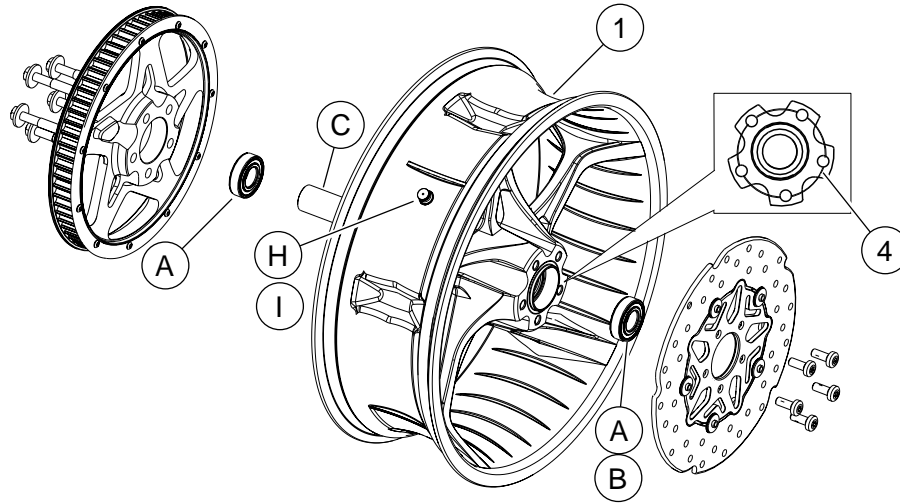

Figure 1. Service Parts: Rear Stinger Wheel
See Figure 1 and the Service Parts Tables.
2. See Figure 1. Install valve stem assembly (H or I) on wheel. See the service manual.